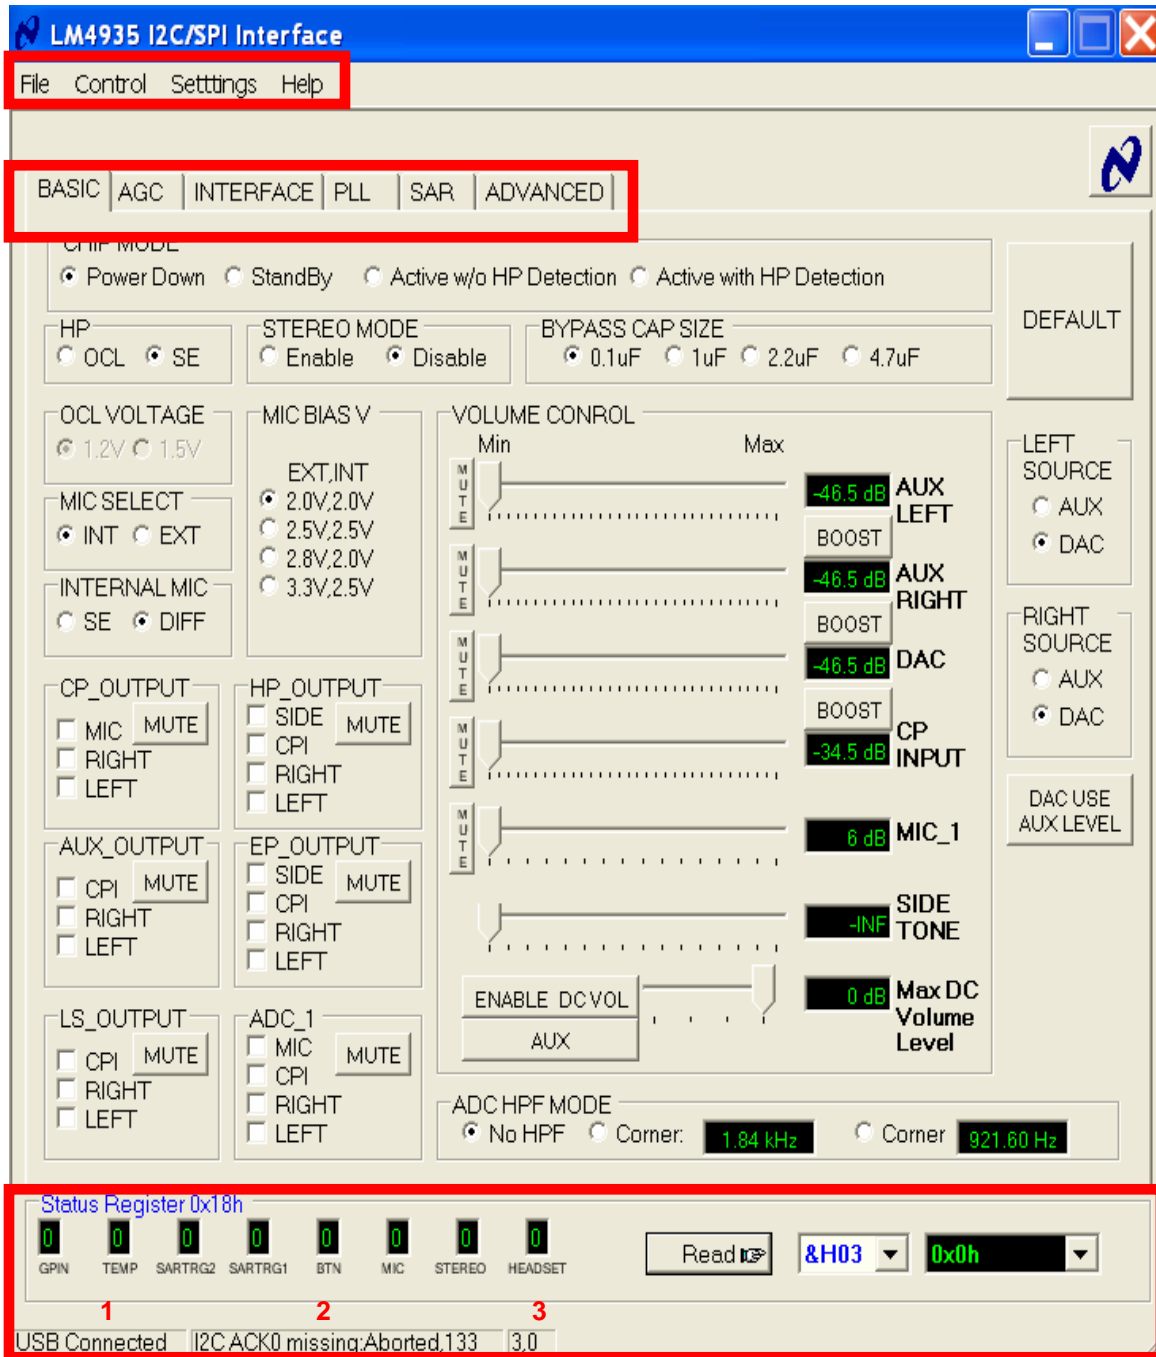

Figure 1: A main View of LM4935 Software (BASIC tab).
The LM4935 Software is divided up into three main sections: Menu Bar, Tabs Control, and Status Register and Bar. (please refer to Figure 1)
Status Messages (please refer to Figure 1):
3) Shows two hex numbers. The first number shows the data register address (0x3h) and the second number shows the data byte (0x00h). (Figure1)